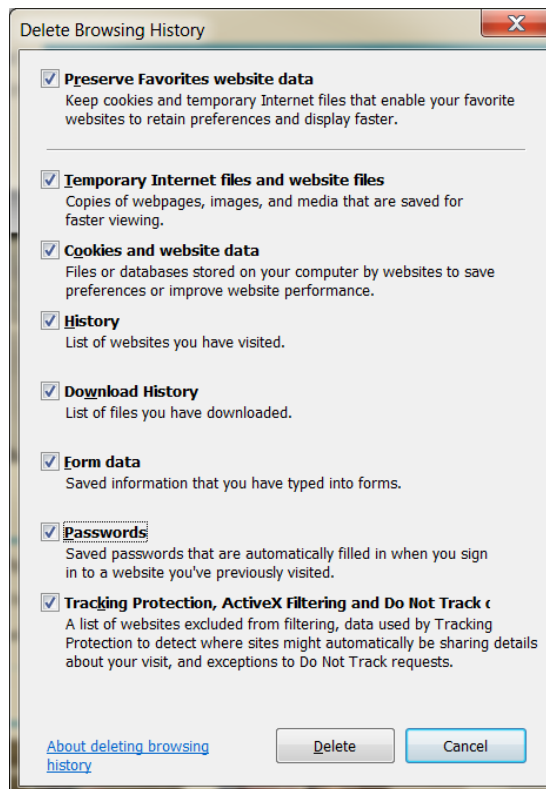

Figure 14: Delete Browsing History popup box
- c) Check all checkboxes as shown in Figure 14 and select **Delete** button.